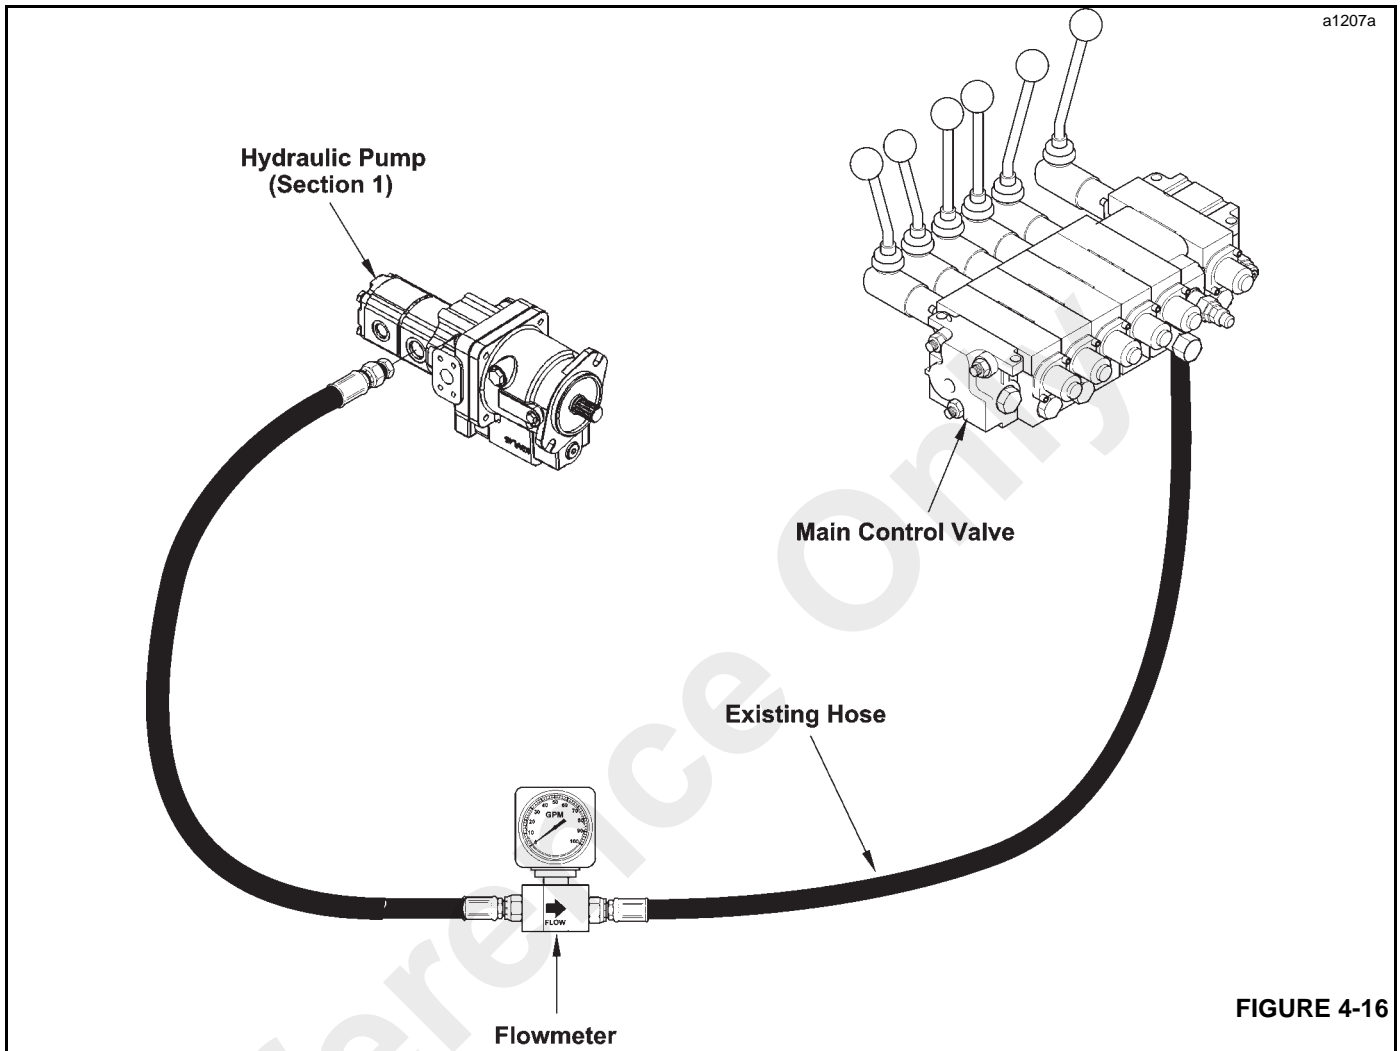

FIGURE 4-16
1. Connect the flowmeter between the pump and the control valve (Figure 4-16) according to instructions in the flowmeter manual. Make sure the needle valve is fully open.